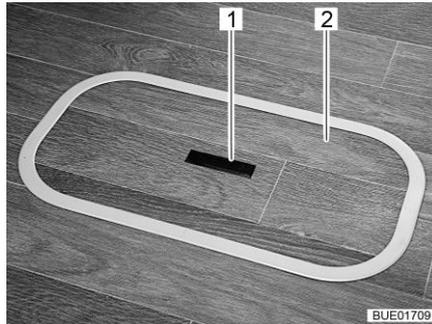
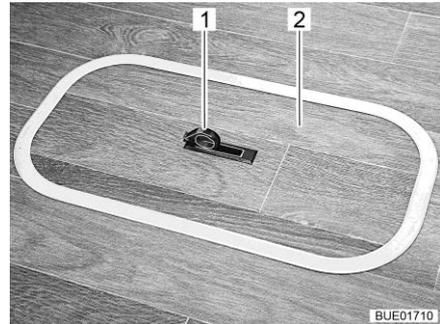

Fig. 70 Floor compartment cover
Fig. 71 Floor compartment cover
- Push one side of the grip plate (Fig. 70,1) downwards. The handle (Fig. 71,1) swivels upwards.
- Remove the cover (Fig. 70,2 or Fig. 71,2) upwards.